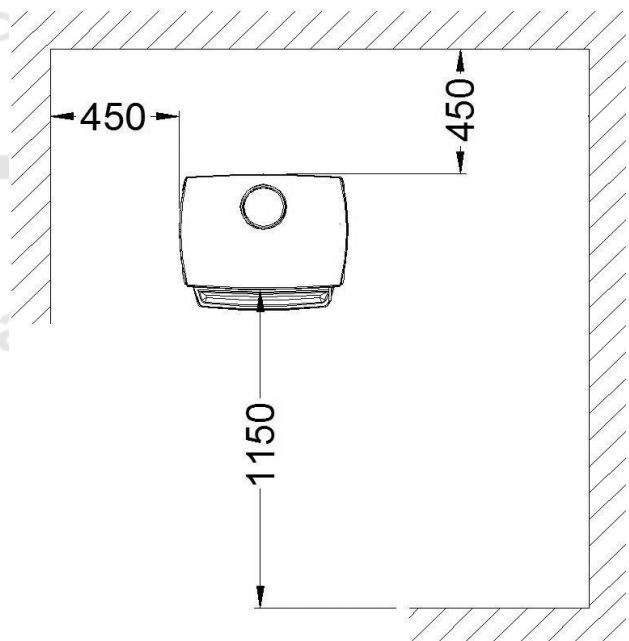

FIG. 6 - SAFETY DISTANCES
- When installing the stove, observe the necessary safety distances for the oven and chimney from combustible surfaces (wooden or papered walls, wooden floors...). Safety distances must be respected when the lining on walls or nearby areas may be damaged or deformed by temperature (varnish, paint, PVC...). **Fig. 6**